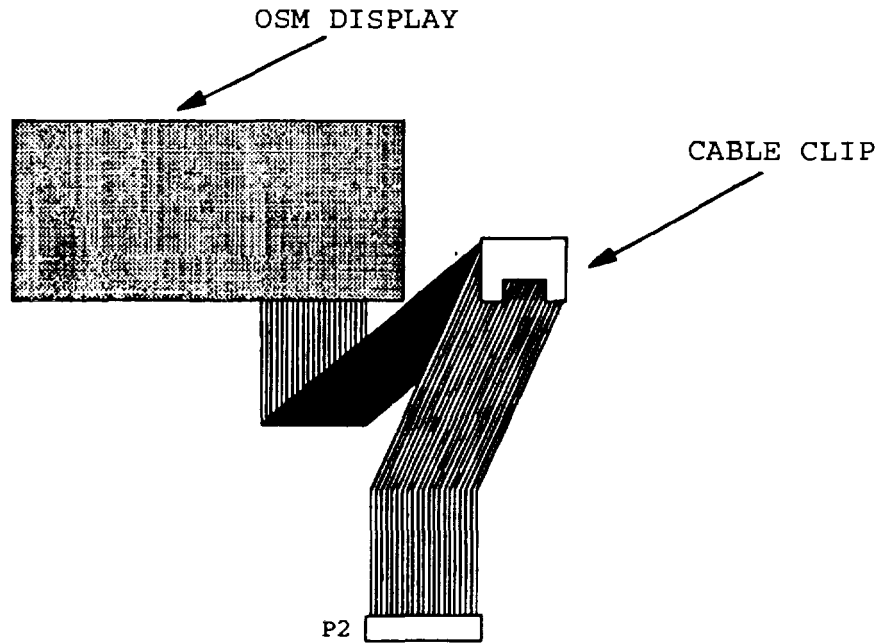

FIGURE 5-15. OSM Ribbon Cable Clip.
- (4) Connect OSM ribbon cable P2 to J2 on motherboard CCA. Place OSM ribbon cable in cable clip (refer to Fig. 5-15).
- (5) Install MCF CCA (refer to para. 5-8b).
- (6) Install FTF CCA (refer to para. 5-9b).
- (7) Install PS CCA (refer to para. 5-10b).